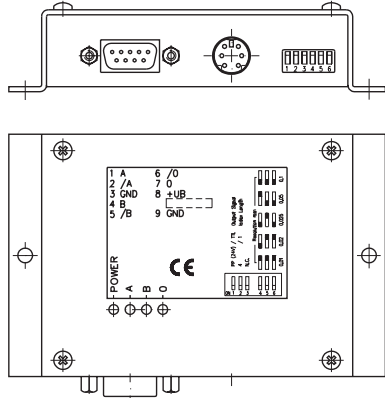

Fig. 1: Mounting / connections
The unit has been designed for screw fixation - via the lateral mounting tabs / bores. (s. Fig.1)
- remove the 4 casing screws (see fig. 1)